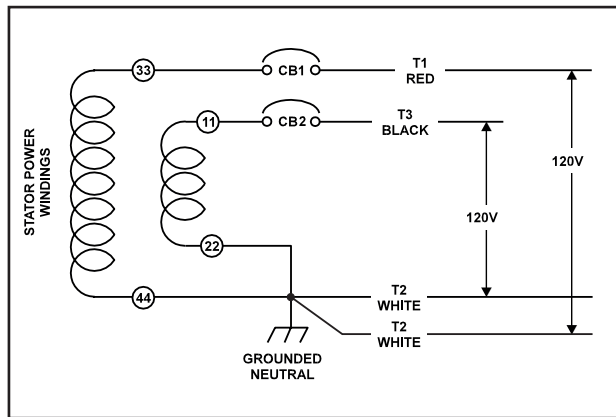

Figure 1-8. – Connection for 120 Volts Only
1. 120 VAC loads only — one load with a maximum total wattage requirement equal to the generator's rated power output (in watts), and 120V across the generator output terminals. Figure 1.8, page 7, shows the generator lead wire connections for 120VAC ONLY.